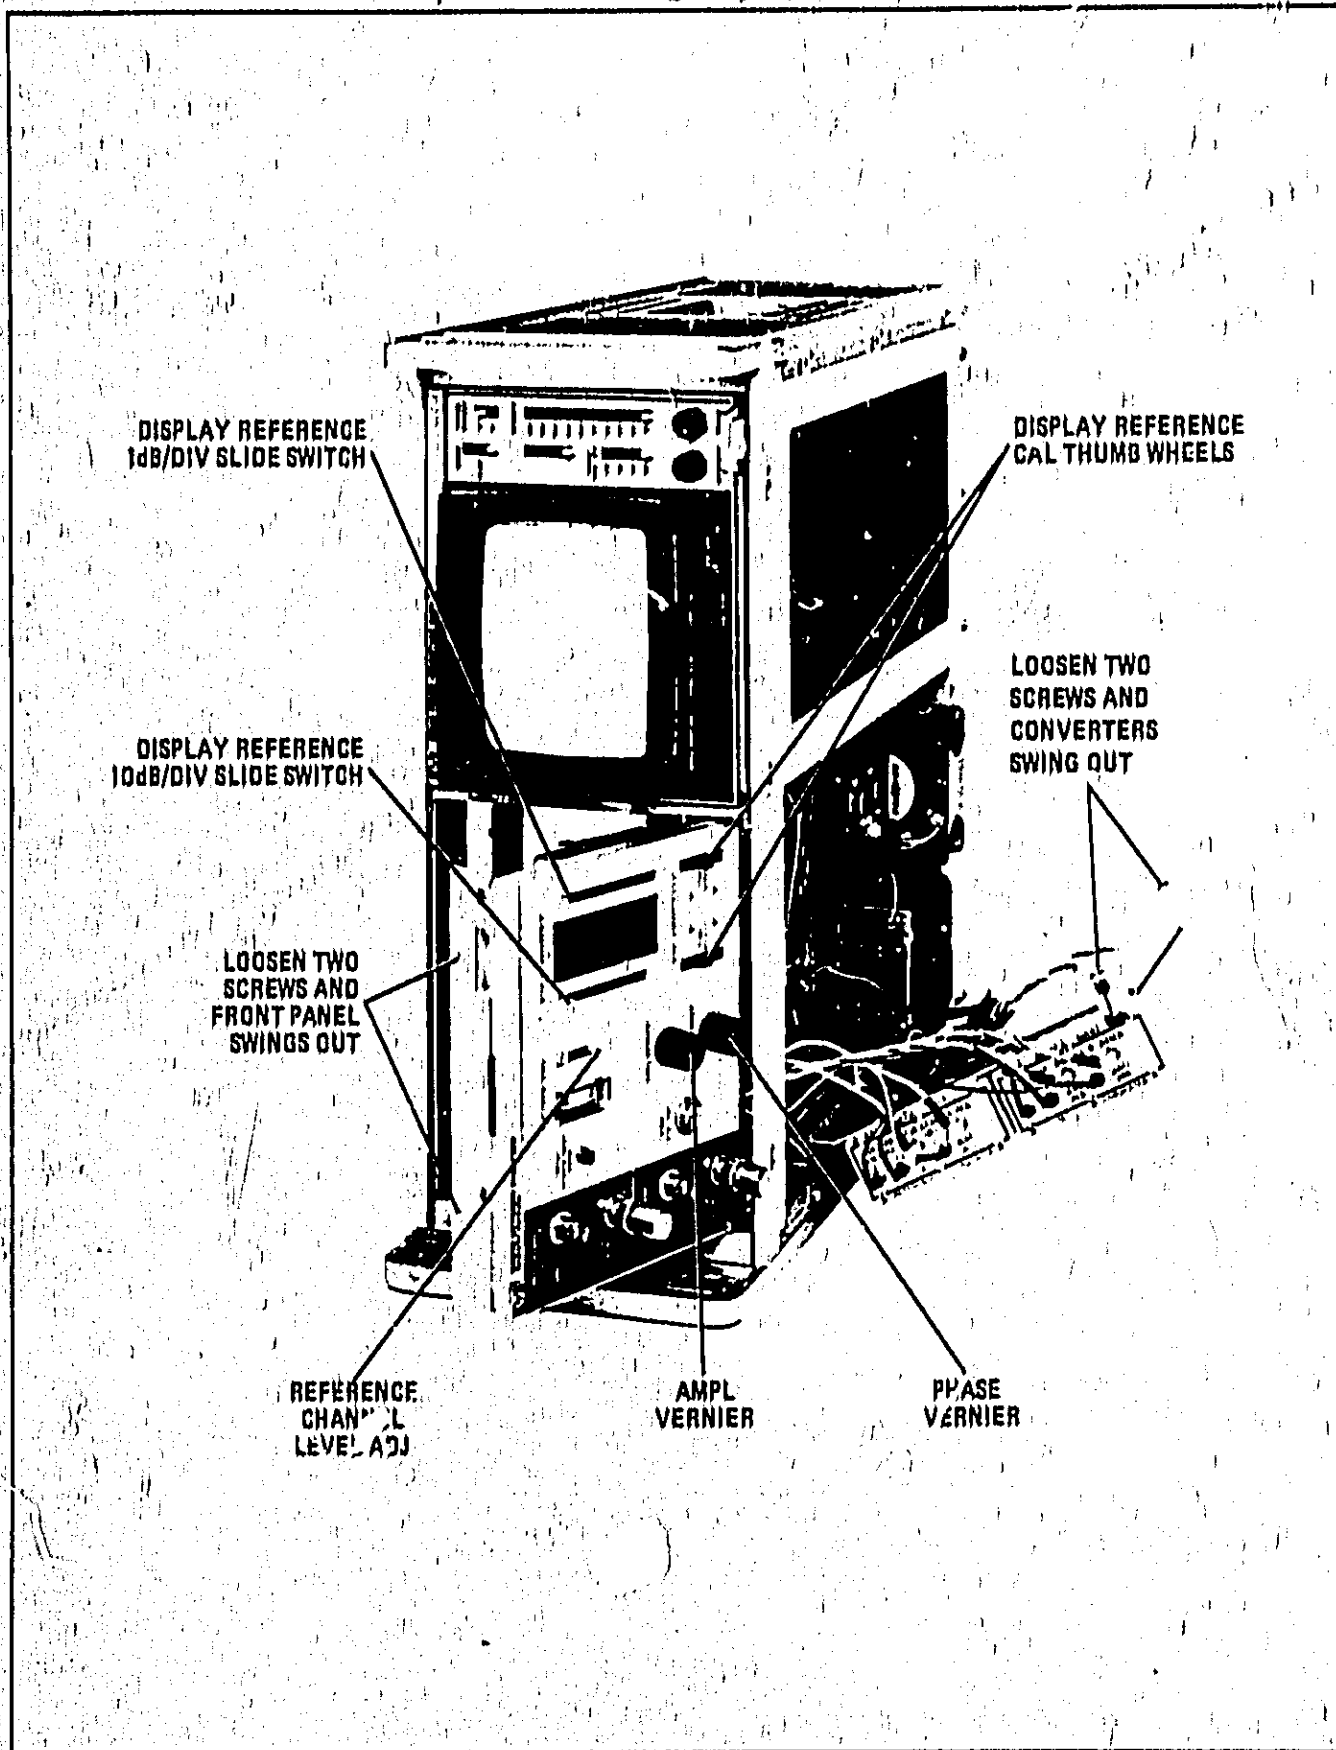

Figure 7-2B. Cabinet Disassembly and Initial Front Panel Control Setup Positions
a. Remove 8407A top and bottom covers. Place 8407A on its side and loosen the two straight slot casting retaining screws (accessible from bottom) securing the converter assembly casting, and swing the casting out (see Figure 7-2B).
DISPLAY REFERENCE	Step 2, Set thumb wheels so Zero appears at top of DISPLAY REFERENCE windows as in Figure 7-2B.
*Figure 7-2B shows controls of 8407A and 8412A in the initial setup position.